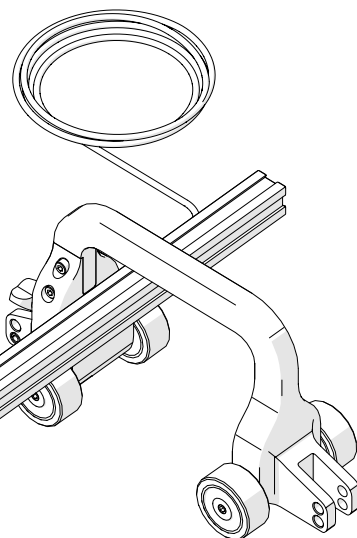

Fig. 69 - Attach frame bar
2. Attach the appropriately sized frame bar (Fig. 69) to the reduced width link (see *Reduced Width Link* on page 9).